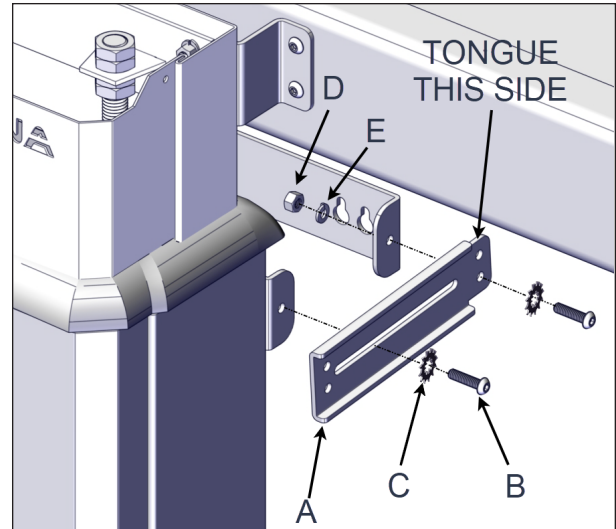
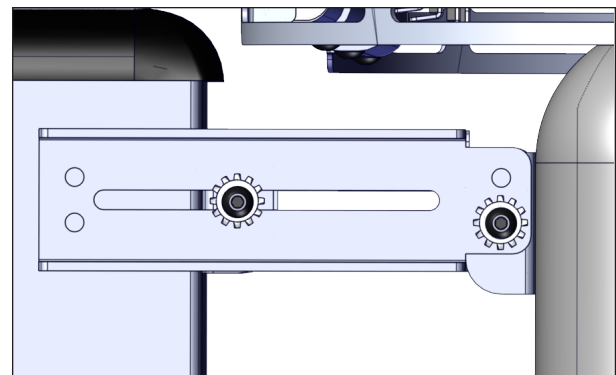

FIGURE 78: MOUNT BRACKET ARM INSTALLATION
FIGURE 79: MOUNT BRACKET ARM SIDE VIEW
23. Attach the top mount bracket arms to the tub mount brackets using the 1/4" x 1" socket head screws, 1/4" int./ext. tooth lockwashers on the outside. Use a 1/4" lock washer and 1/4" nut on the inside. Use a 5/32" (4 mm) drive and 7/16" (11 mm) spanner, Figure 78 and Figure 79.
The rounded tongue section of the bracket should always be mounted on the spa side, see Figure 78.